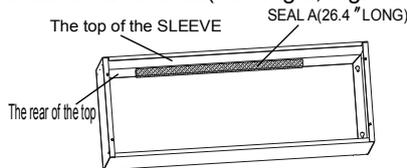

Fig.5
- Attach the SEAL A and SEAL B to the SLEEVE at proper position as shown below.(See Fig.5, Fig.6 and Fig.7)